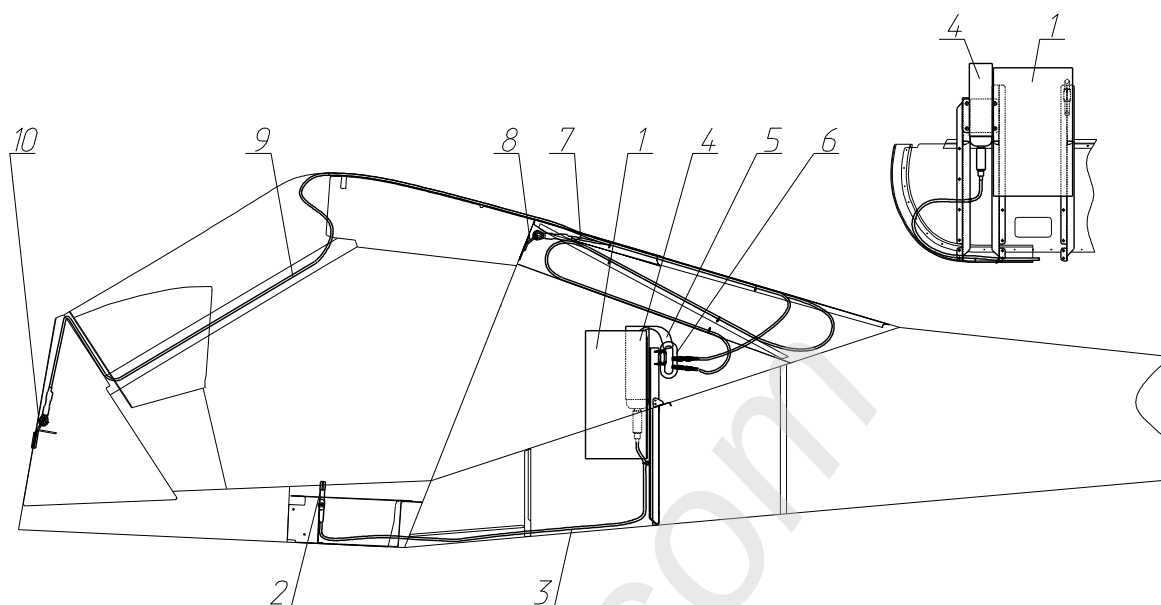

Fig. 21 Recovery system
Installation of the recovery system is shown on Fig. 21. The parachute packed into a soft container (1) is located behind the baggage compartment. To deploy the system pull the handle (2) of the ejection device connected with a cable (3) to the rocket housing (4). That launches the rocket which pulls out the parachute, attached with a rope (5) via a carabiner (6) to the cables (7) and (9) fastened to the attachment points (8) and (10). The locations of the attachment points and the cables' length are selected so that the aircraft when descending with deployed parachute is suspended in a certain attitude (wings level, nose lowered). Such attitude ensures a high level of safety to pilots during emergency landing despite the fact that the aircraft structure is likely to be damaged while absorbing the impact at touchdown.